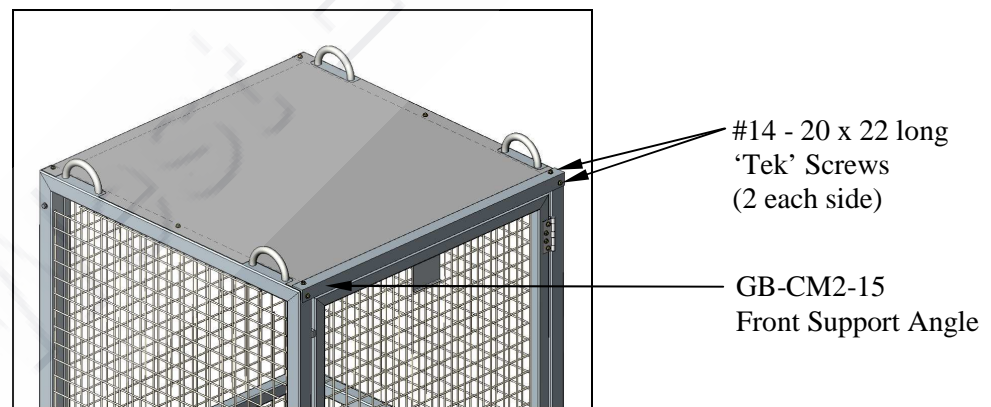

Figure 1.8
- I) With the 2mm shim still positioned, place the Front Support Angle (Item 15) over the Roof Panel fold as shown in Figure 1.8 above. Ensure the top Angle holes align with the holes in the Roof Panel. (Note: the holes in the ends of the Angle are offset – the inner most holes should be at the top). With the Angle hard up against the Roof Panel fold secure the Angle to the Side Panels at the top using #14 – 20 x 22 long 'Tek' Screws (Item 21 – 2 required). These 'Tek' screws should go through the Angle and existing holes in the Roof Panel. Once the Angle has been secured at the top, secure the Angle at the front using #14 – 20 x 22 long 'Tek' Screws (Item 21 – 2 required).